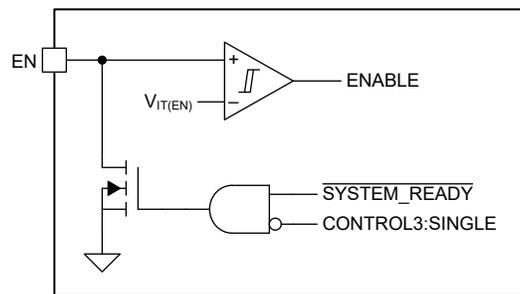

図 7-10. Enable Functional Block Diagram
The Enable (EN) pin is bidirectional and has two functions. See 図 7-10: